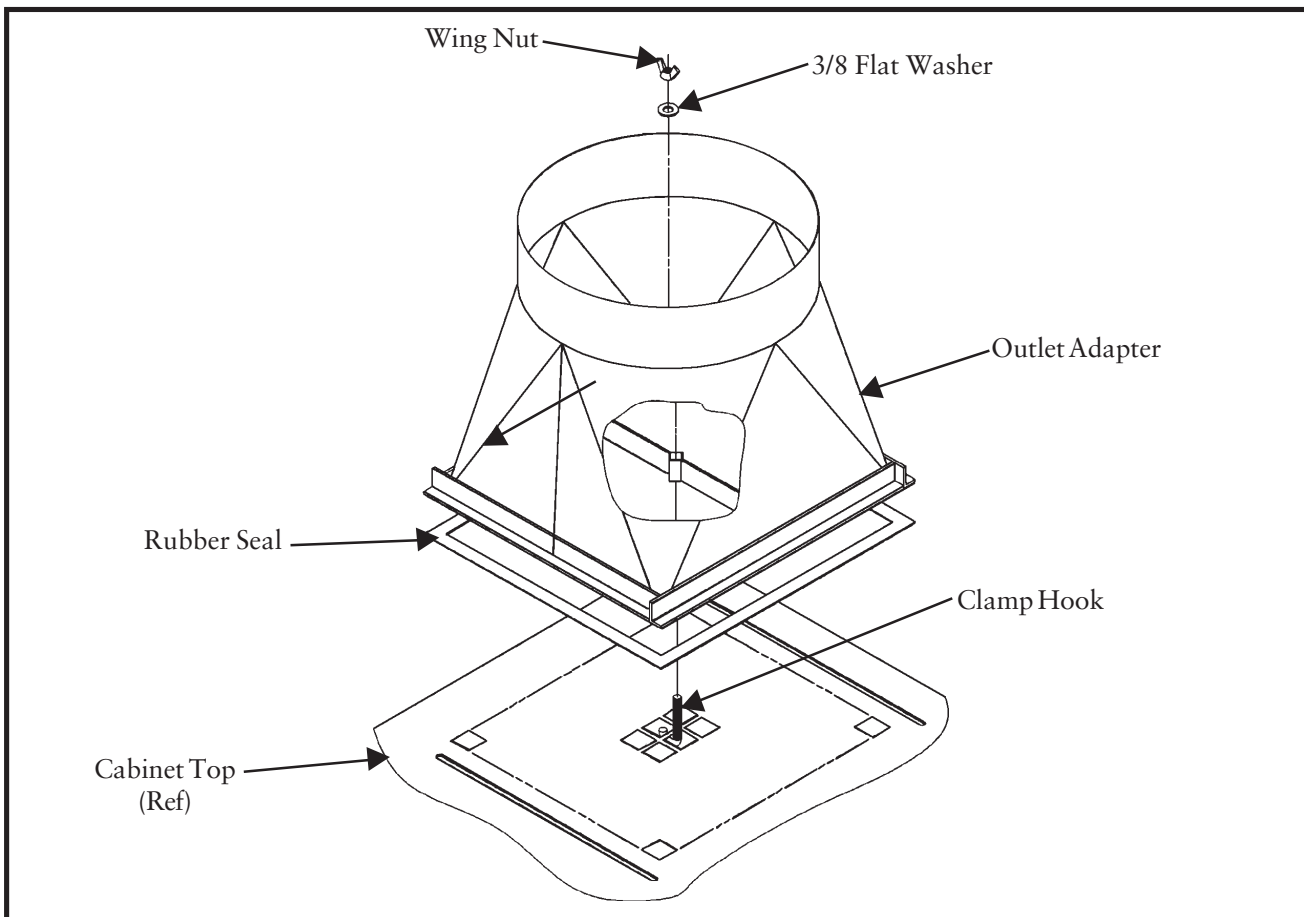

Figure 6
2.5.4 Adapter to Round Outlet (See Figure 6 Adapter Pack to Round Outlet)